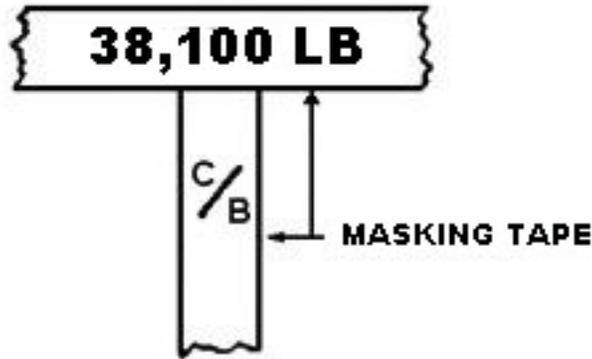

Figure 3-10
- b. Mark CB by forming a T-shape with masking tape or by making "T" with chalk; the vertical portion of the "T" represents the center of balance mark (see Figure 3-10).